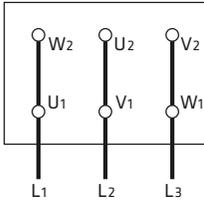

Figure 11a.  $\Delta$  - connection
- The mains connection on the terminal box depends on the nominal power of the motor, the power supply and the type of connection. The necessary connection of the bridges in the terminal box is shown in the following (*Table 3 ve Figure 11a, 11b, 11c*).